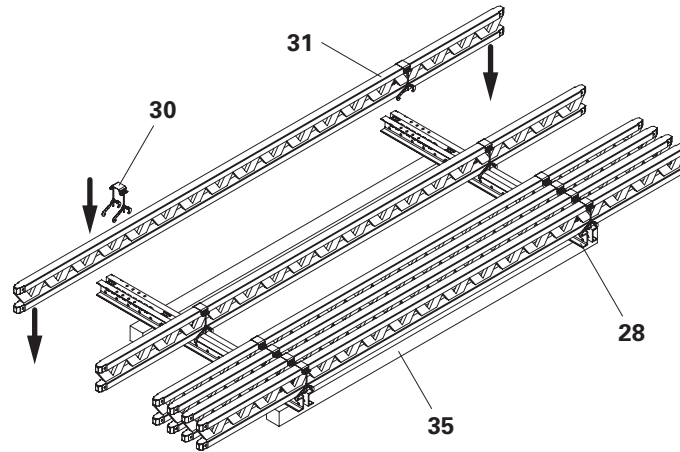
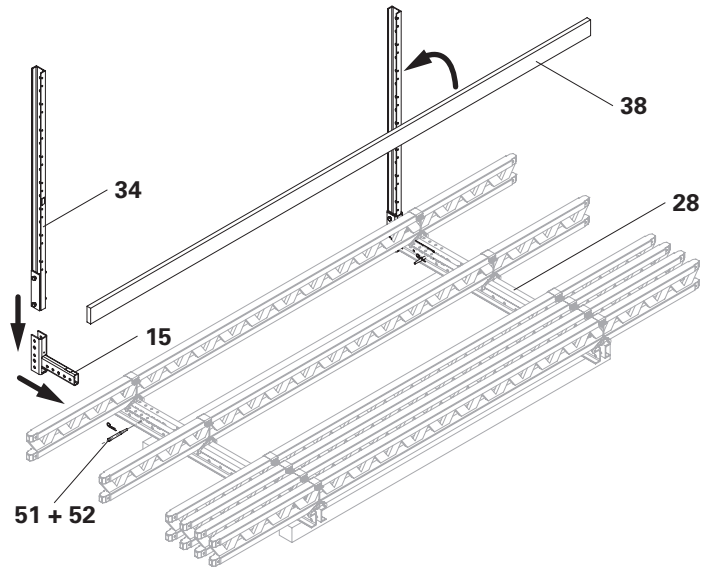

Fig. B4.01
Fig. B4.03
- (Fig. B4.01 + B4.02)
3. Fasten Elbow Connections RCS/SRU (15) to the Steel Walers Universal SRU (28) with two fitting pins  $\varnothing 21 \times 120$  (51) and secure with cotter pins (52).
4. Screw Guardrail Posts RCS 226 (34) tightly onto the Elbow Connections RCS/SRU (15).
5. Screw handrail boards (38) onto the Guardrail Posts RCS (34) with round head bolts M8 x 70 (60) and nuts M8 (61).
- (Fig. B4.03)